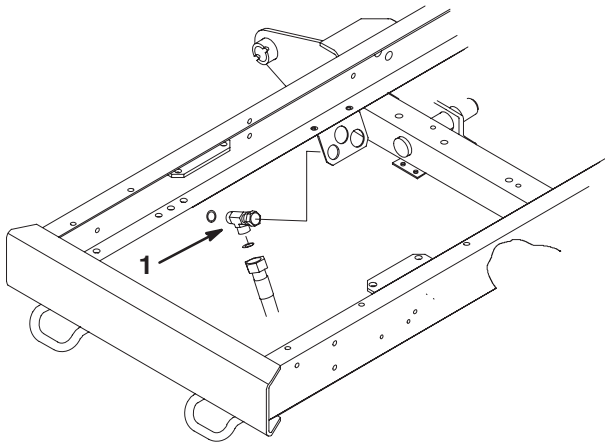

Figure 9
- 11.** Install two tee fittings to the bulkheads on the wing deck motor return lines on both sides of the unit (Fig. 9).